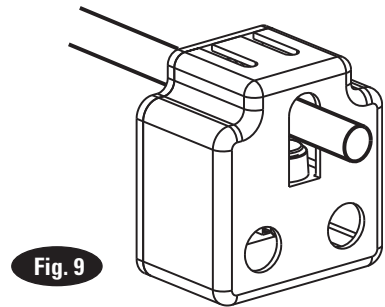

Fig. 9
10a. Overhead Assembly: Fig. 10: Adjust overhead to appropriate dimension. Install (4) M10-1.5 x 20mm HHCS & M10-1.5 Flanged Locknuts, do not tighten. Slide Switch Box Fig. 9 over switch bar ensuring knock out holes face the power unit column. Use (2) 1/4"-20NC x 3/4" lg. HHCS, 1/4" Flat Washer, and 1/4"-20NC Nuts to mount switch box to overhead, see Fig. 10.